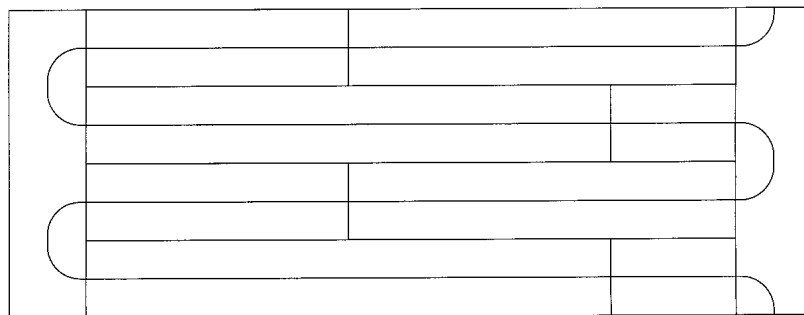

Figure 16: Correct Panel Placement for Serpentine Pattern
3. Place the Return Panels so they align with the grooves in the Quik Trak panels. Make sure to maintain a serpentine pattern for proper tubing placement (see **Figures 16 and 17**).